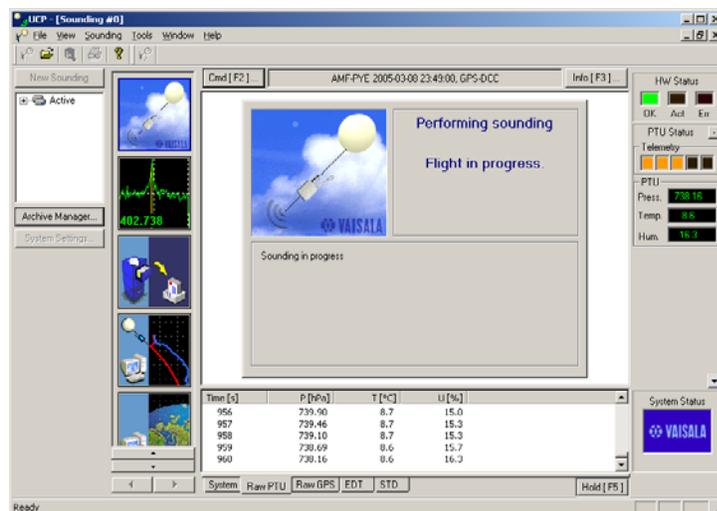

Figure 14
51. Enter wind direction and speed obtained from the SMET computer. Click on "Next." You should see the following screen (Figure 14):